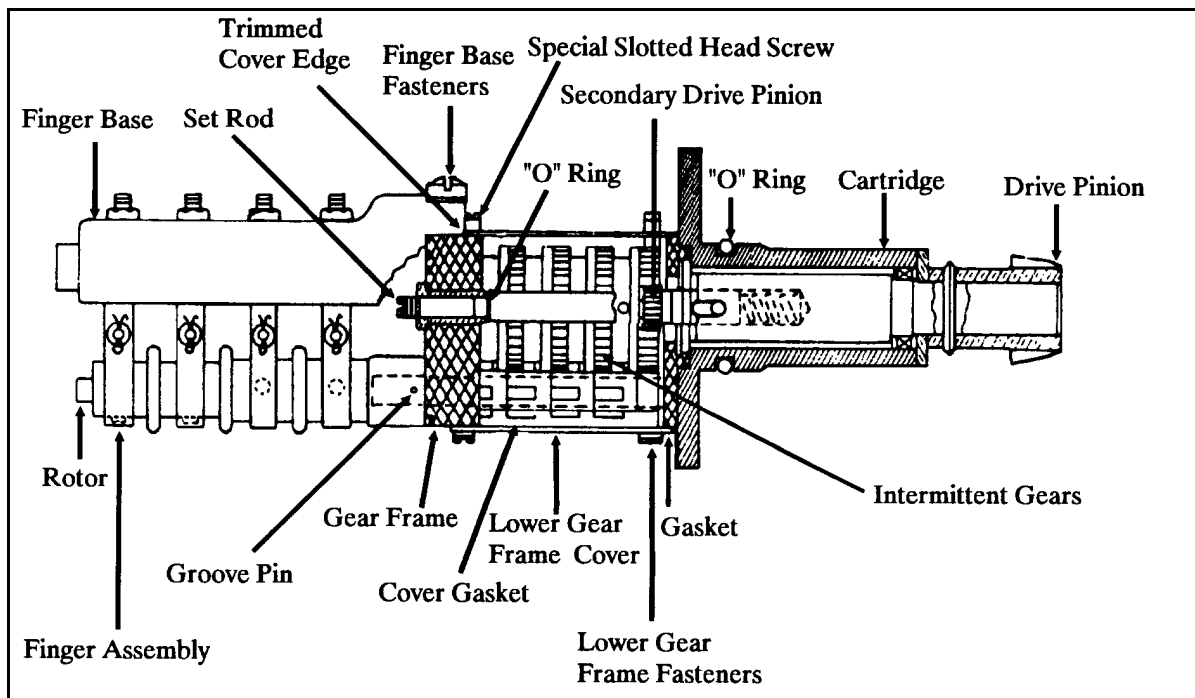

Figure 4-10 Limit Switch Section View
15. Disengage the limit switch by rotating the set rod (Figure 4-10) in the clockwise direction. This disconnects the intermittent gears in the limit switch gear frame from the secondary drive pinion of the limit switch cartridge.